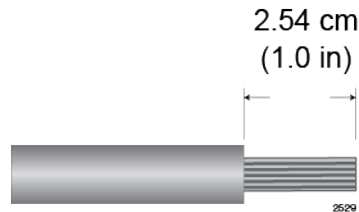

Figure 131. Stripping the solid or Stranded Grounding Wire
1. Prepare an adequate length of solid or stranded 10 AWG grounding wire by stripping it as shown in Figure 131.